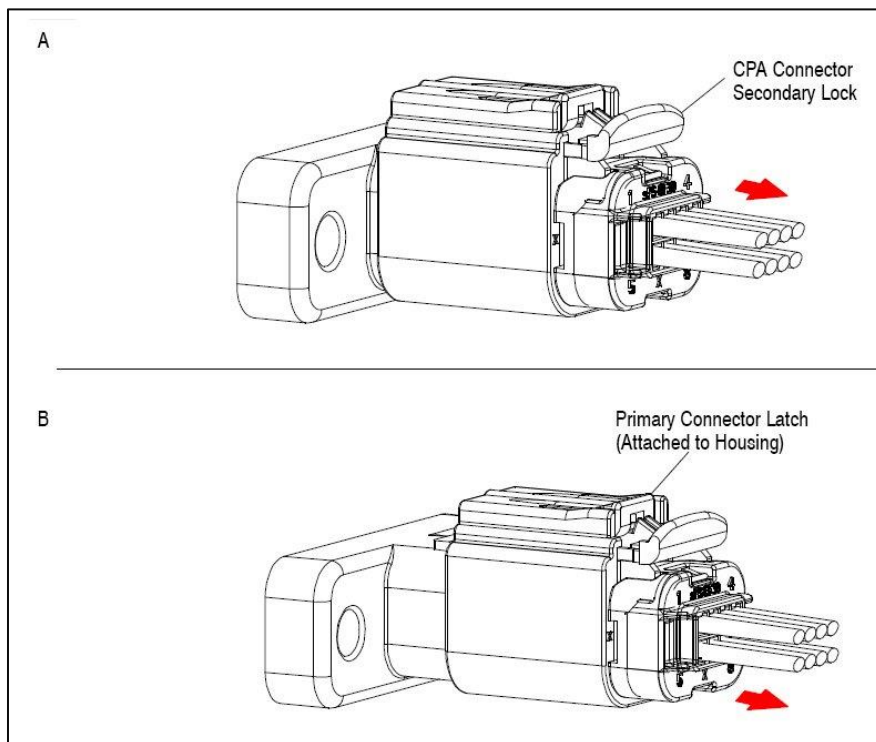

Figure 3-14. Unlocking Primary and Secondary Connectors
- a) To un-mate the receptacle and plug connector assemblies, lightly pull the CPA back to Position 1 (pre-installed position) until an audible and tactile “click” is heard and felt. See **Figure 3-14(A)**.
- b) With the CPA in Position 1, depress the primary connector latch, then simultaneously pull the connectors/wires while gripping the housing with the thumb, index finger, and palm if using the wire bundle. See **Figure 3-14(B)**.